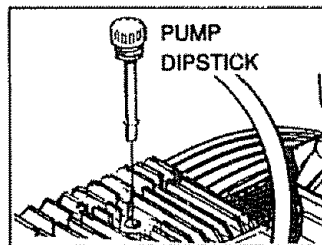

FIG. 4
- Remove the red cap from the oil fill hole on the pump and insert Oil Fill Cap (Fig. 4).